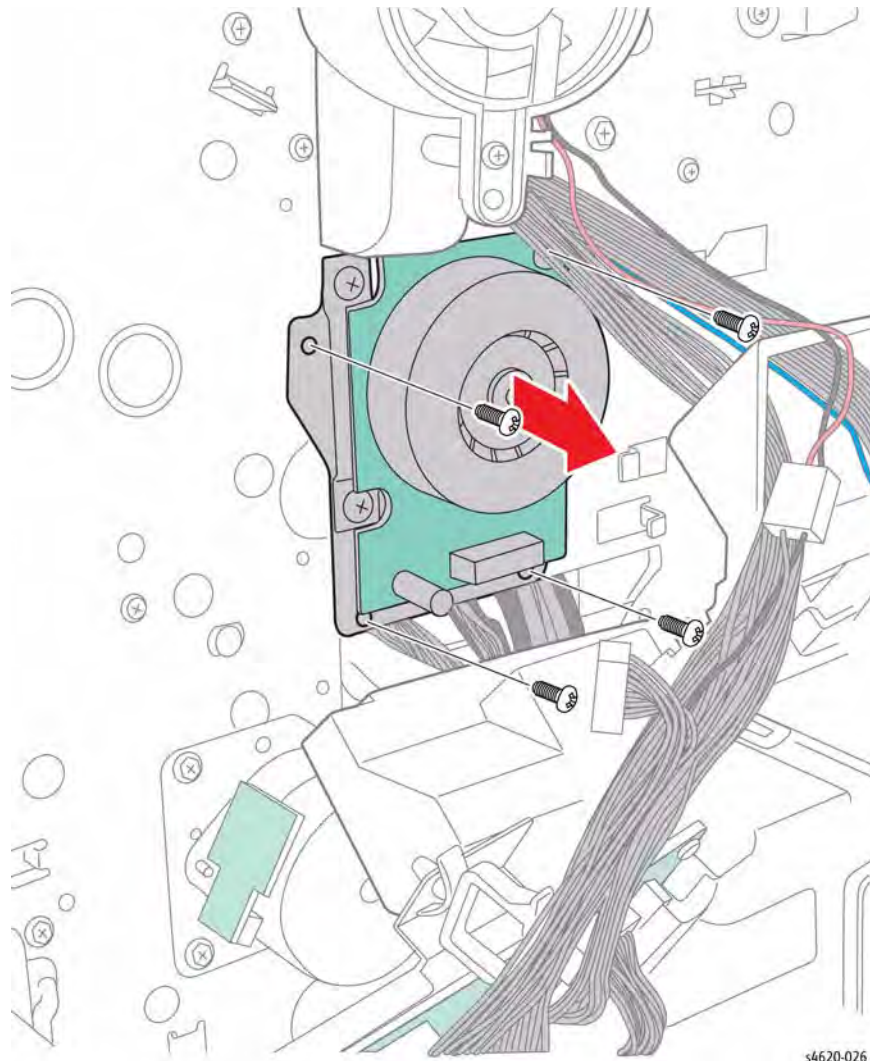

Figure 6 Remove the Fuser Drive screws
15. Remove 4 screws (metal) that secure the Fuser Drive Assembly, Figure 6.